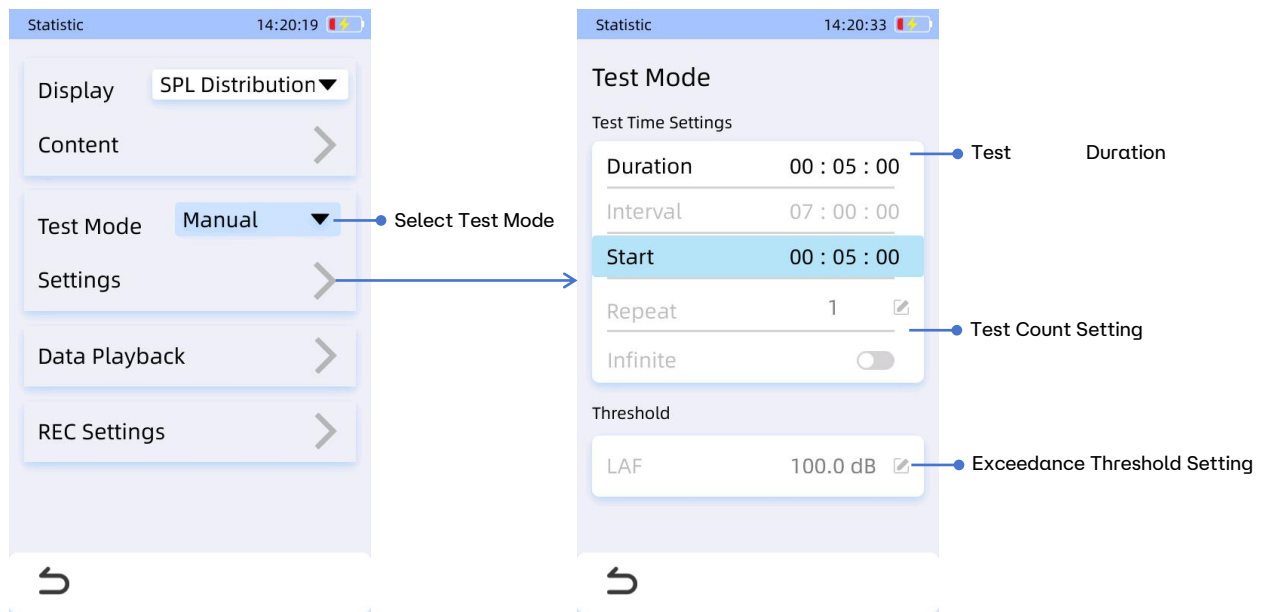

Fig 6.25 Testing Mode Settings
- b. Automatic Mode: After clicking the start test button in the main interface, the application will automatically conduct the first test based on the user's set duration. After the first test, it will conduct a second test after the user's specified interval, and so on. The number of repetitions refers to how many times the test will be conducted and is set by the user. If the user enables the infinite repeat option, the automatic tests will continue indefinitely until the user manually stops them. When automatic testing is selected, the testing mode settings interface will appear as shown in Figure 6.25, where the start test duration cannot be edited.